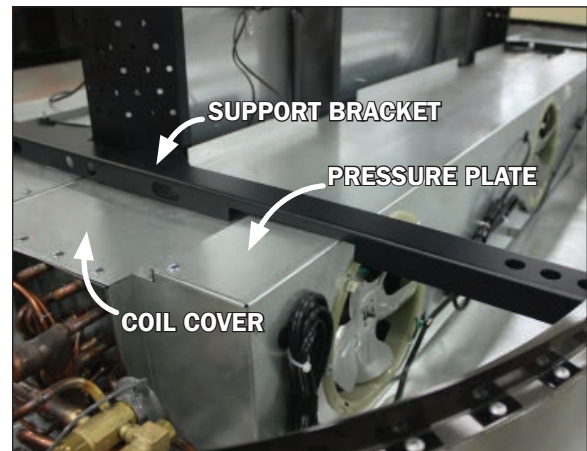

Fig. 18 Support brackets, pressure plate and coil cover
2. To remove the pressure plate and access the underside of the fans first remove the support brackets (Fig. 18). There will be one at each end of the case. There are eight